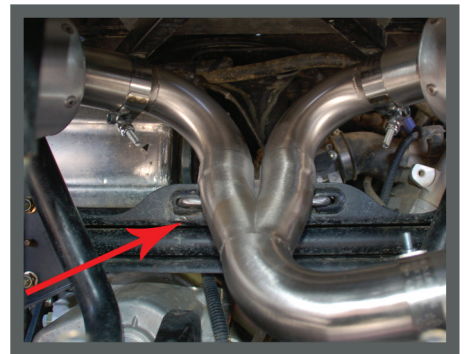

Figure 5
5. Slide the **Clamp** on, then slide the **Collector** into the **bulge**, and the **Hangers** into the **Rubber Mounts**. (see Figure 5)